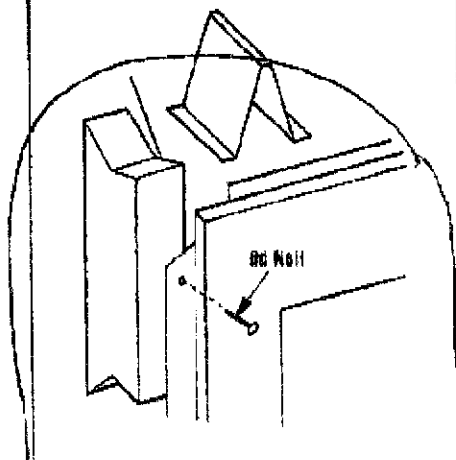

Figure 17
**Step 4.** Fireplace should be secured to side framing members using the full length nailing tabs at the top and bottom of the fireplace front face. Use 8d nails (Figure 17).